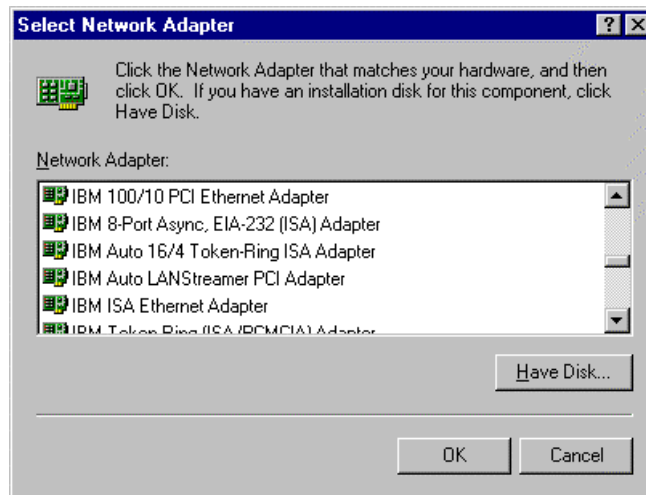

Figure 6-13. Select Network Adapter
3. Click the **A**dd button to add a new adapter. The Select Network Adapter dialog box will display a list of adapters included with Windows NT (Figure 6-13).